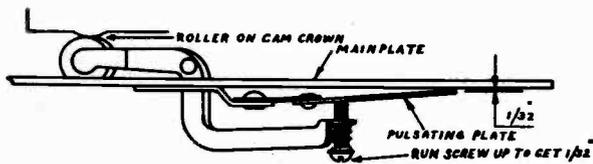

FIG. 6
When the turntable is revolving the pulsating plate of the reject mechanism should clear the main plate by $\frac{1}{32}$ of an inch when the crown on the cam attached to the underside of the turntable touches the pulsating lever roller at its highest point. See Figure 6. To make this adjustment proceed as follows:
1. Rotate turntable until the crown of the cam under turntable touches roller of pulsating lever as shown in Figure 6.